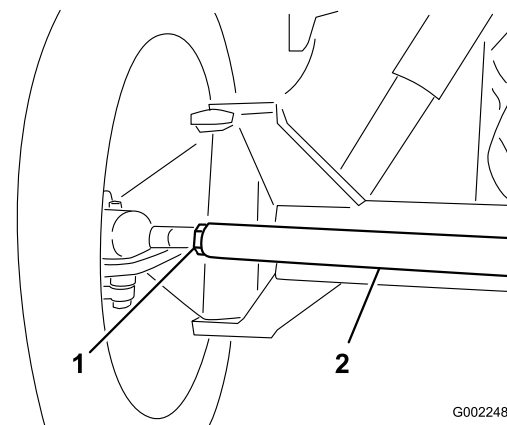

Figure 81
3. If the measurement does not fall within the specified range, loosen the jam nuts at both ends of the tie rod (Figure 81).